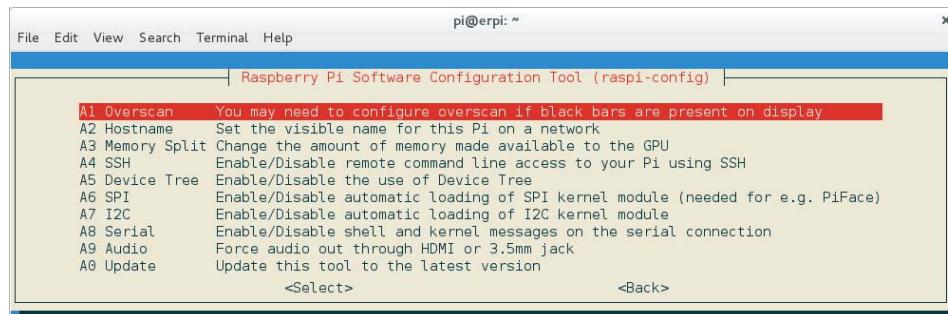

Figure 2-8: The raspi-config tool Advanced Options menu
- **Overscan (Advanced Options; see Figure 2-8):** Allows you to adjust the video output to the full screen of your television. This option makes changes to the /boot/config.txt file.
The options that remain in Figure 2-8 typically also modify the `/boot/config.txt` file and are described throughout Chapter 6 and Chapter 8 in particular. For many of the options, you have to reboot the RPi for the changes to take effect because they are initialization settings that are passed to the kernel on startup.